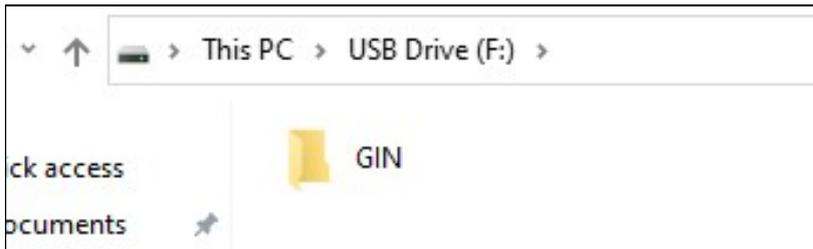

Figure 73
- 2) Please plug the U-disk into your PC first, and create a new folder named "GIN" at the bottom of the root directory of the U-disk, as shown in Figure 73 below.